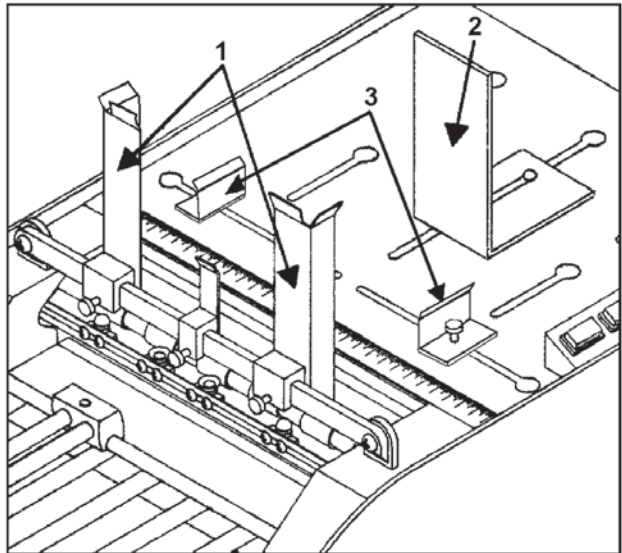

Figure 8
5. Attach Front Envelope Guides [#1, Fig. 8] approximately in middle of Feeder (as shown).
7. Attach Rear Envelope Guide [#2, Fig. 8] using slot in Feeder floor nearest rear end of envelope, then adjust Anti-skewing Guides to sides of envelope [#3, Fig. 8].